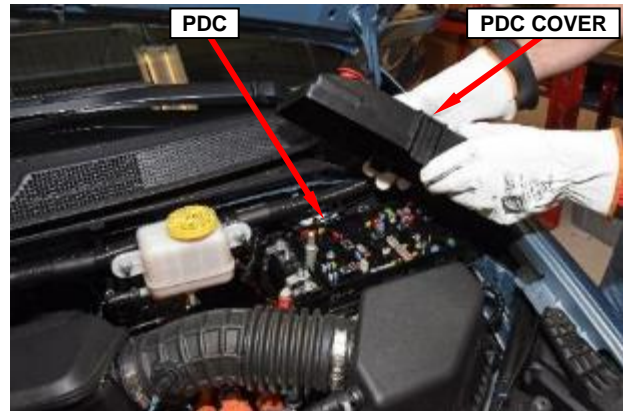

Figure 2 – Power Distribution Center
7. Remove and save the 12-volt Power Distribution Center (PDC) cover (Figure 2).